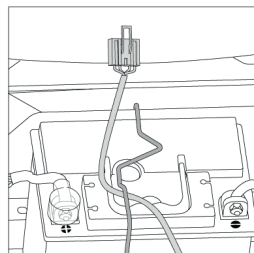
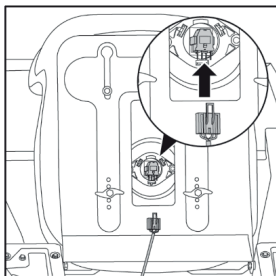

FIG.2B
FIG.2C
4. GRASP THE SEAT SWITCH WIRING HARNESS AND PASS IT UNDERNEATH THE BATTERY ATTACHMENT ROD. CONNECT THE SEAT SWITCH WIRING HARNESS TO THE SEAT SWITCH. (FIG.2B AND FIG.2C)